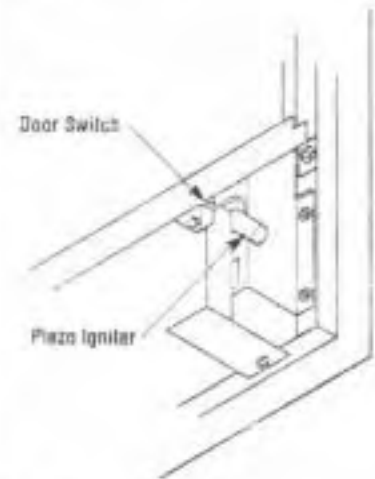
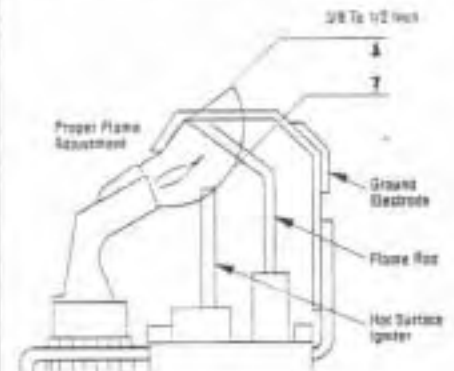

Figure 42
Figure 43
**\*Note:** To operate the appliance while leak testing, ensure that the door switch is depressed or the unit will not light (refer to Figure 42).
To light the burner, turn "ON" the remote wall switch (Figure 42) and rotate the gas valve control knob counterclockwise to the "ON" position ("ON" will be at the bottom side of the valve).
To light the burner, turn "ON" the optional remote wall switch, manually depress and hold the door switch (Figure 42) and turn the gas control switch to the "ON" position. Ensure the ignitor lights the pilot. The pilot flame should engulf the flame rod as shown in Figure 43.